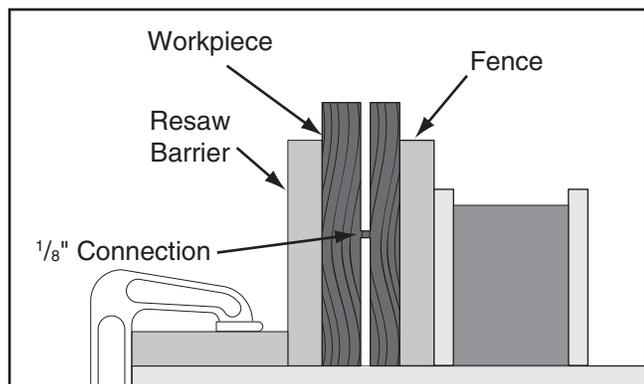

Figure 72. Ideal completed resaw cut.
3. Place the workpiece against the rip fence and slide the resaw barrier against the workpiece. Now clamp the resaw barrier to the top of the table saw (see **Figure 72**).
8. Repeat **Steps 4–6** until the blade is close to half of the height of the board to be resawn. The ideal completed resaw cut will leave a $\frac{1}{8}$ " connection when the resawing is complete as shown in **Figure 72**. Leaving a $\frac{1}{8}$ " connection will reduce the risk of kickback.